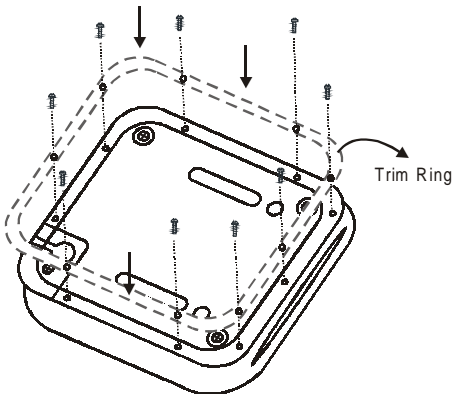

Figure 2
- 2) The trim ring is attached to the video monitor using the perimeter screw bosses. It is important that the screws used in this installation are not overtightened, and that the video monitor and trim ring are mounted in such a way that the assembly does not distort (or bend) when the mounting screws are tightened. The trim ring **MUST** be screwed to the unit. (Refer figure 2)